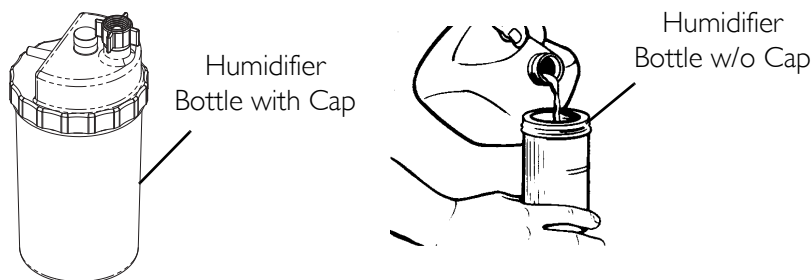
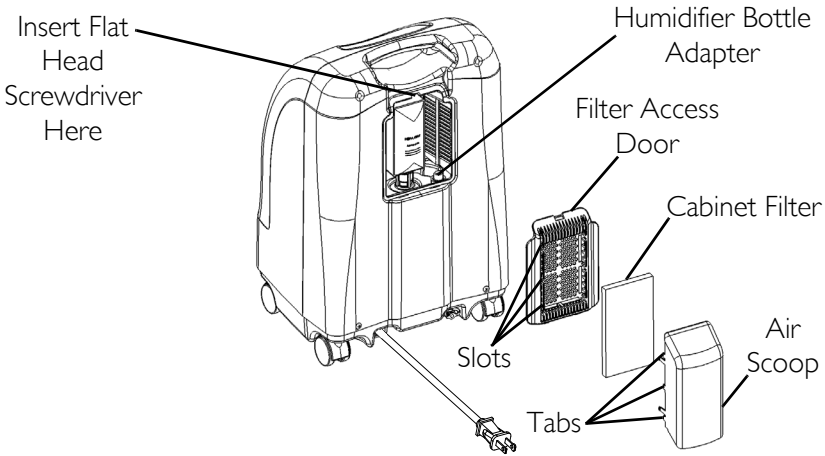
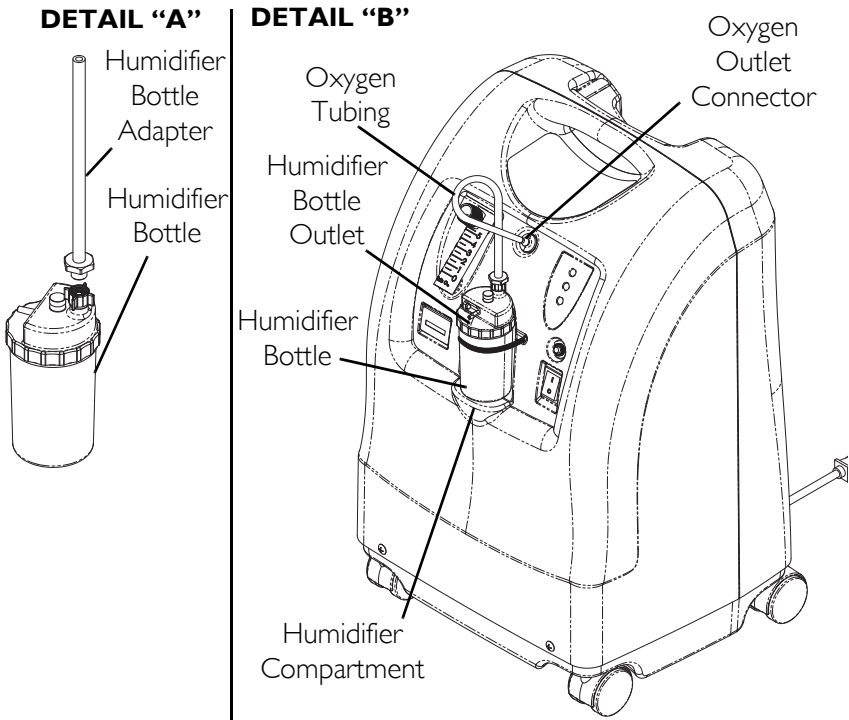

FIGURE 6.1 Filling the Humidifier
FIGURE 6.2 Humidifier Bottle Adapter
FIGURE 6.3 Humidifier Compartment
NOTE: For this procedure, refer to FIGURE 6.1, FIGURE 6.2 on page 20, FIGURE 6.3 on page 21.
3. Insert a flathead screwdriver in the plate groove on the top edge of the filter access door and gently pry the filter access door off (FIGURE 6.2).
4. Pull up and remove the humidifier bottle adapter (FIGURE 6.2).
6. Attach the humidifier bottle adapter to the humidifier bottle by turning the wing nut on the humidifier bottle counterclockwise until it is securely fastened. See Detail "A" in FIGURE 6.3.
7. Place the humidifier bottle/adapter assembly in the humidifier compartment on the concentrator. See Detail "B" in FIGURE 6.3.
8. Attach oxygen tubing from the humidifier bottle/adapter assembly to oxygen outlet connector on the concentrator. See Detail "B" in FIGURE 6.3.
9. Attach the cannula/patient supply tubing to the humidifier bottle outlet. See Detail "B" in FIGURE 6.3.